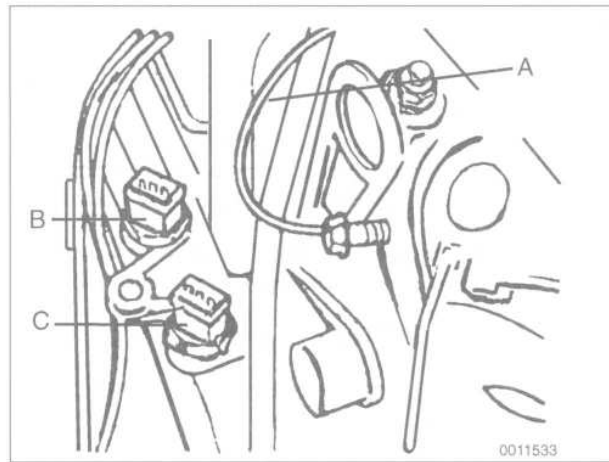

Fig. 32. Ground wire for ignition coils (A) and coolant temperature sensors (B, white connector, C, black connector).
17. Remove ground wire from engine lifting bracket and disconnect harness connectors from engine coolant temperature sensors at rear of engine. See Fig. 32.